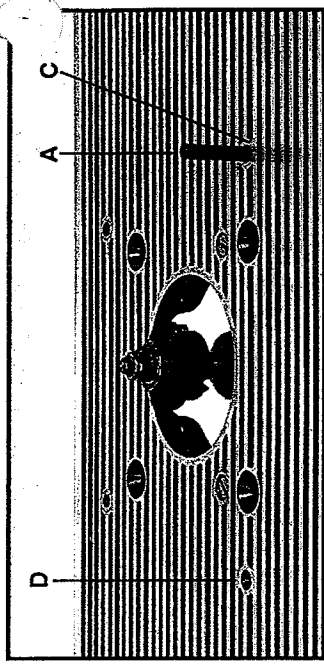

Fig. 22
For shaping irregular edges a starting pin (A) Fig. 22, is furnished with your Router/Shaper for use with piloted router bits. To install starting pin, remove fence assembly by removing two thumb screws (A) Fig. 14 and fence assembly. Insert starting pin into either hole (C) or (D) Fig. 22. For majority of shaping operations the starting pin should be installed in hole (C) Fig. 22, as work must be fed against the direction of rotation of the cutter.